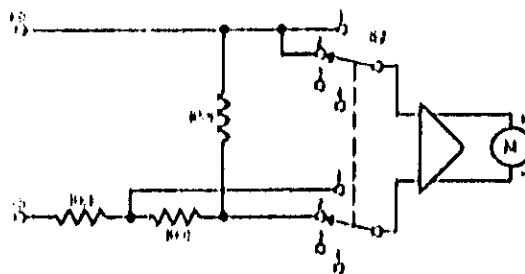

Figure 4-8, Meter Connections, Simplified Schematic
4-30 Figures 4-8 and 4-9 show the meter connections when S2 is in the higher voltage and current positions, respectively. For the sake of simplicity, some of the actual circuit components are not shown on these drawings. With METER switch S2 in the higher voltage range, position (2), the voltage drop across R59 is the input to the meter amplifier and the meter indicates the output voltage across the +S and -S terminals. For low output voltages, S2 can be switched to position 1 resulting in the application of a larger percentage of the output voltage (drop across R59 and R60) to the meter amplifier.